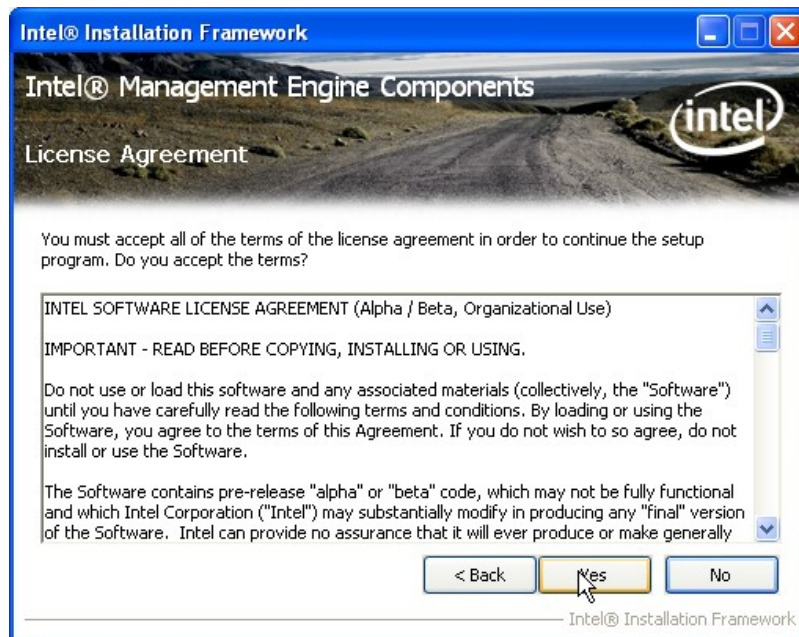

Figure 6-24: Intel® ME Driver License Agreement
Step 7: The license agreement in Figure 6-24 appears.